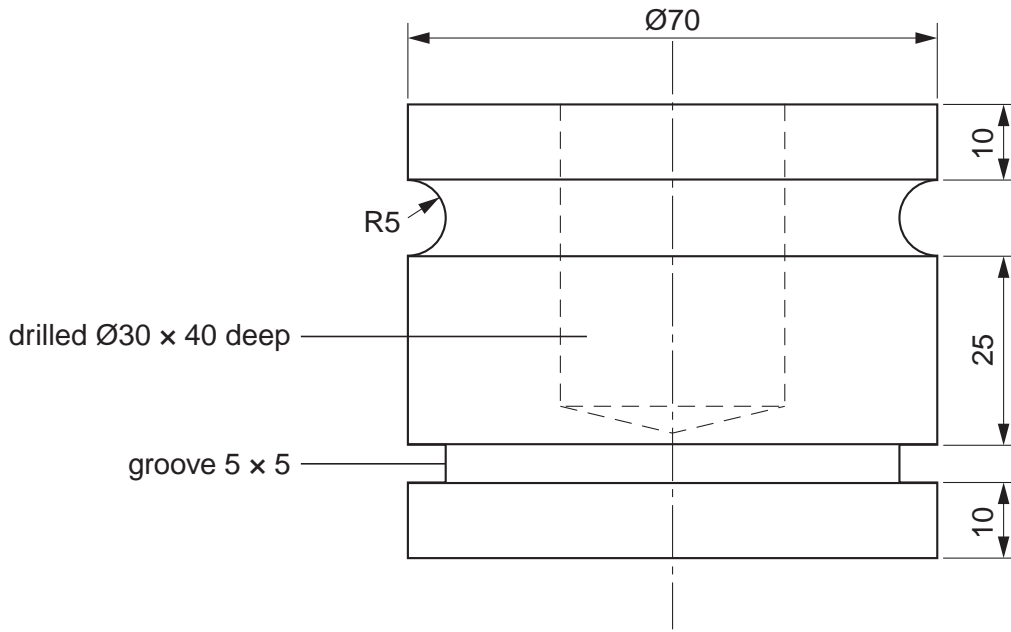

Fig. 1
- 1 Fig. 1 shows a design for a candleholder.